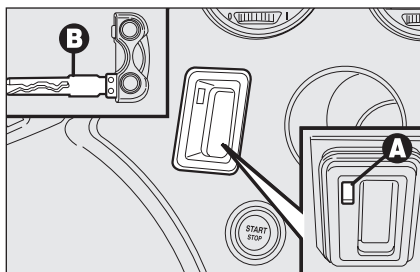

fig. 9
- ☐ fit the metal insert **B**-fig. 9 of the electronic key into the slot **A**;
IMPORTANT Only fit the metal insert **B** of the electronic key into slot **A**-fig. 9.